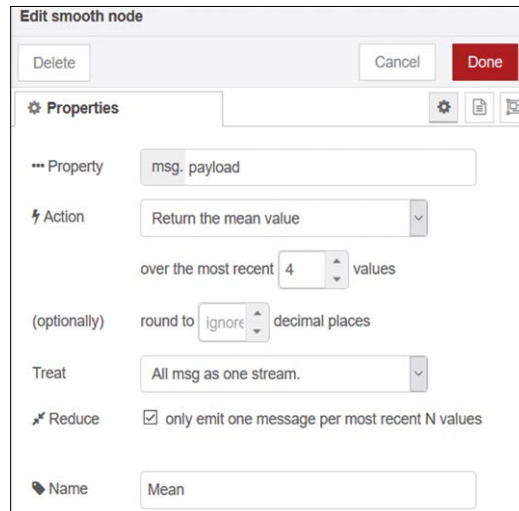

Figure 4.37 Create a smooth node
- Create a smooth node named **Mean**, as shown in Figure 4.37, click **Done**, and set the following parameters: